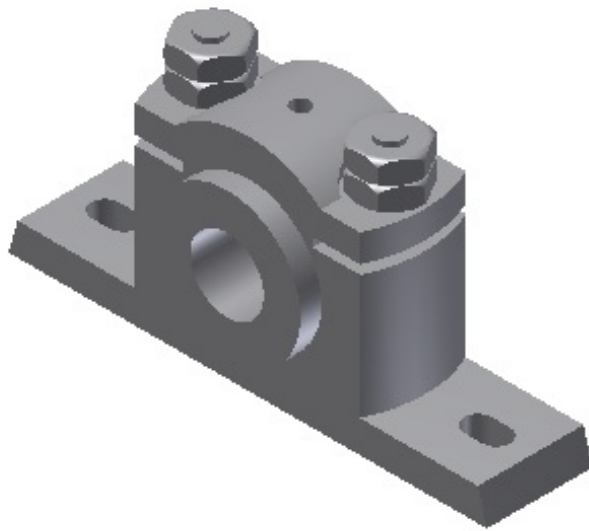

Figure 9-91 Final Plummer Block assembly
6. Similarly, assemble the other Nut and the Lock Nut. Turn on the display of all the hidden components using the **Browser Bar**. The final Plummer Block assembly is shown in Figure 9-91.